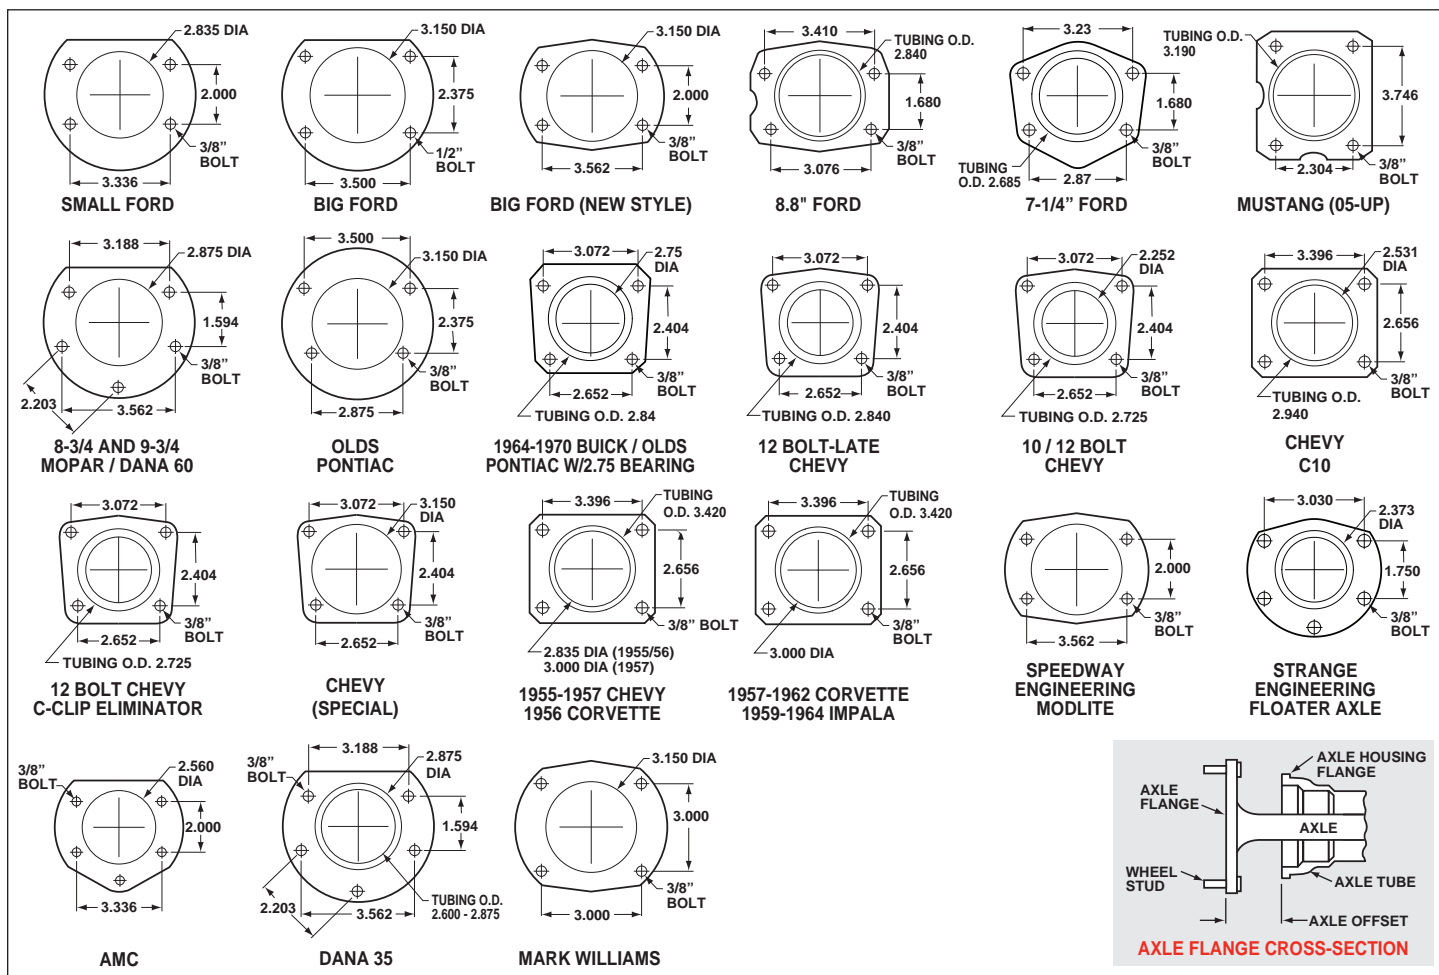

Figure 6. Rear Housing Flange Chart and Axle Flange / Offset Cross-Section
- Make sure this is the correct kit to fit your axle housing flange and axle offset. Multiple rear axle assemblies were available on 1966-77 Ford Broncos. Using Figure 6, check that your rear axle matches the description on page 1 of these instructions (i.e. Big Bearing Ford, New Style, 2.38 Offset).
- Dimension from wheel side of axle flange to wheel side of axle housing flange (see Figure 6, lower right hand corner). This dimension is critical to ensure proper alignment of the rotor to the caliper, and should match offset given in the kit description.